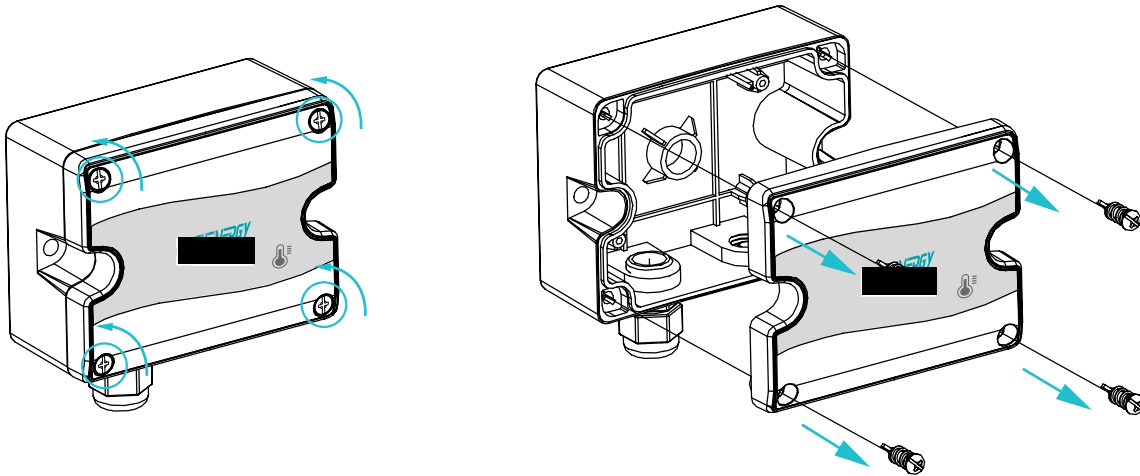

Figure 3 AcuTEMS DM Removing Cover
**NOTE:** Use caution to avoid over-rotating the screws, which may cause damage to the enclosure. Refer to Figure 3 for details.